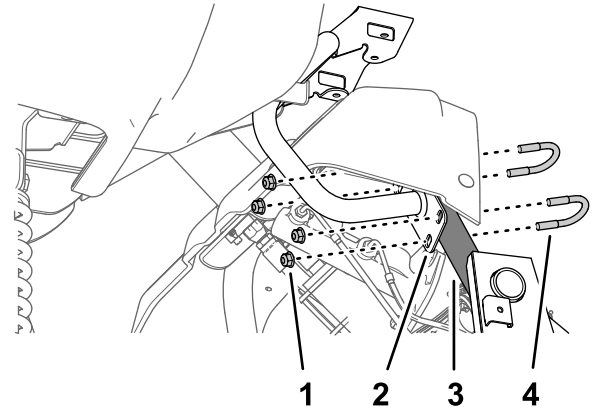

Figure 164
- Assemble the plate of the monitor mount to the support tube of the machine chassis (Figure 164) with the 2 U-bolts and 4 flange locknuts (5/16 inch).